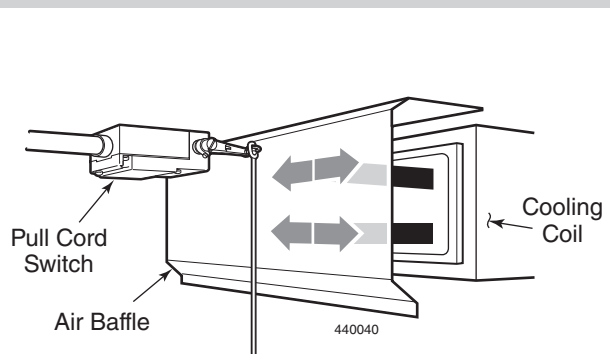

Figure 38
1. Do not mount the pull cord switch in the air flow of the coils. Air flow will move the cord and activate the switch. If the pull cord switch must be mounted in front of the coils, provide an air baffle (by others) to prevent icing of the switch. The air baffle must be of adequate size to protect the pull cord itself, but not obstruct function of the coils. Consult the cold storage contractor. See *Figure 38*.